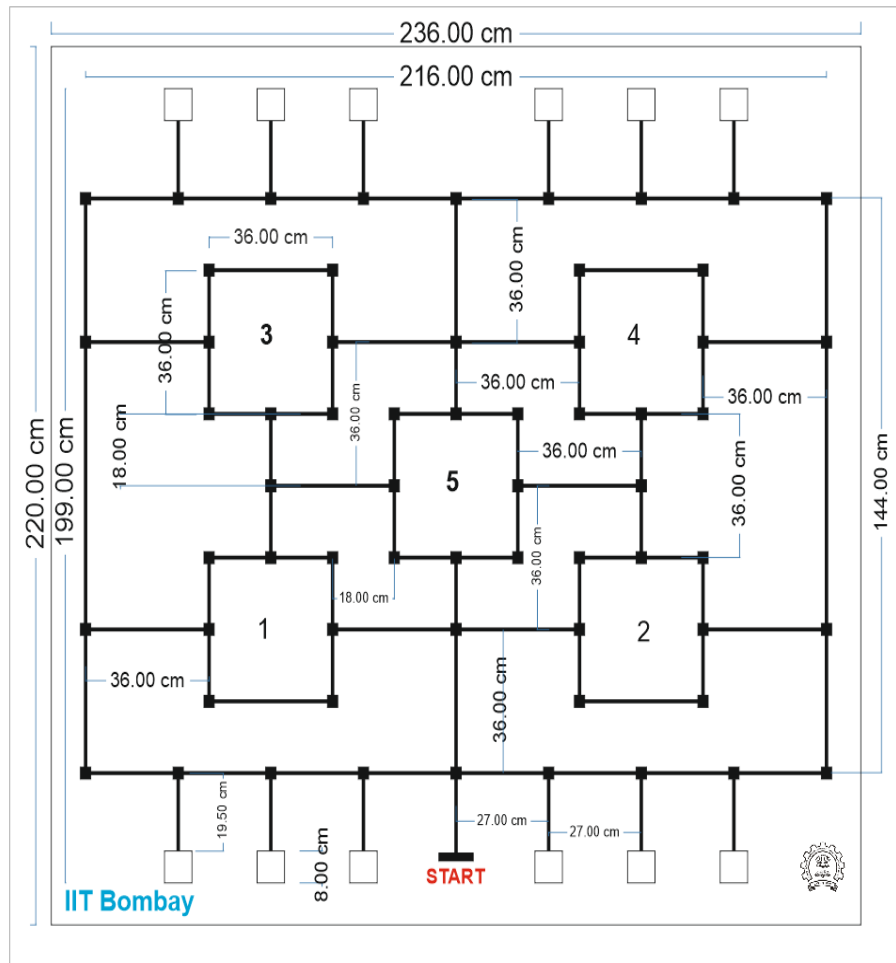

Figure 2: Flex Design
- The arena design is as shown in Figure 2.
- Dimension of the flex sheet is 236 cm x 220 cm. A margin of 10 cm is provided on all the sides to allow for sticking the flex sheet on the ground (Refer to Figure 2).